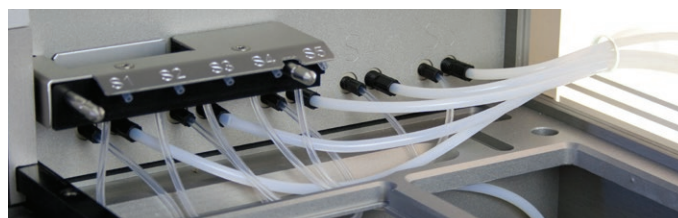

Figure 37. All the solvent tubes in position.
8. Put the solvent feeder back in place. Ensure that the tubes are positioned correctly; see Figure 37.